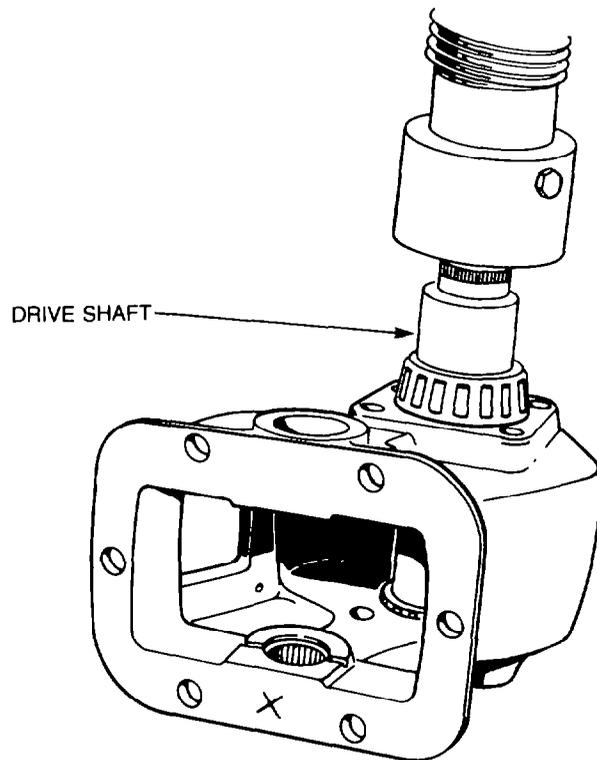

Figure 192 — Installing Drive Shaft Bearing
- c. Place the housing and shaft in a press. Position a bearing, with the taper facing away from the splines, on the drive shaft at the end opposite the output, then press the bearing onto the shaft as shown in Fig. 192, until it butts firmly against the shoulder. Remove the housing from the press.